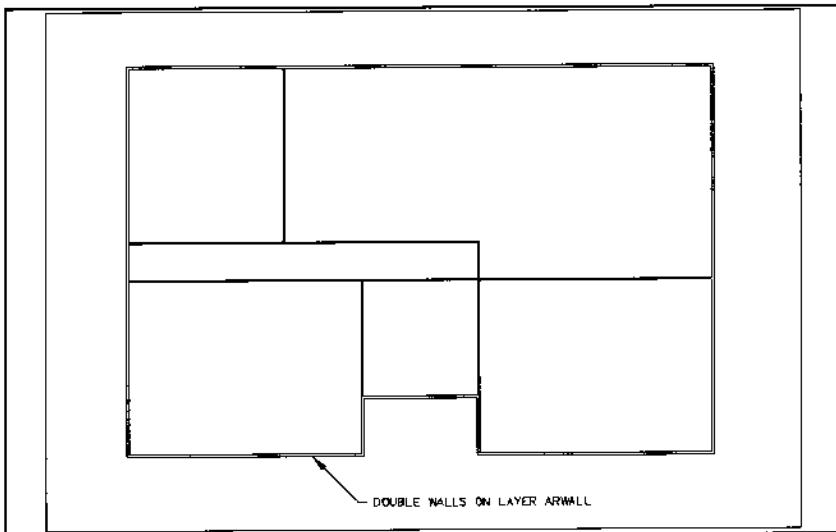

Figure 10.
5. The plan will appear as double line walls, with the single line walls, room names, and areas on layer ARWALL1LINE turned off, as shown in Figure 10.
1. The Display Walls command offers three display options shown in Figures 10, 11 and 12 to view walls only, spaces only, or both walls and spaces.
Display Wall — freezes the space diagram layer ARWALL1LINE and turns on the layer ARWALL as shown previously in Figure 10.
4. The drawing should be set to Display Walls and look similar to Figure 10.